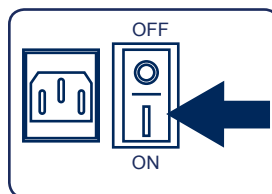

fig.5
1. Press the On/Off button at the back of the unit. The display will become active. (fig.5)